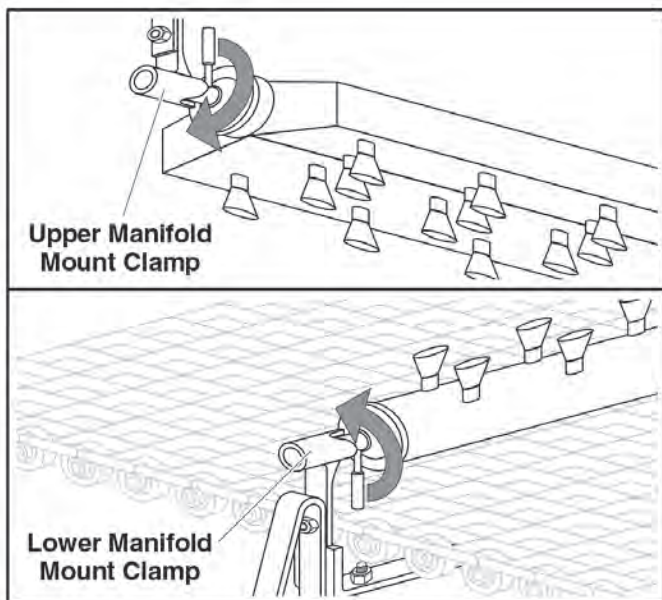

Figure 11
- a. Rotate the Mounting Clamp handle counterclockwise to release the Scraper Spray Manifold (Figure 11).